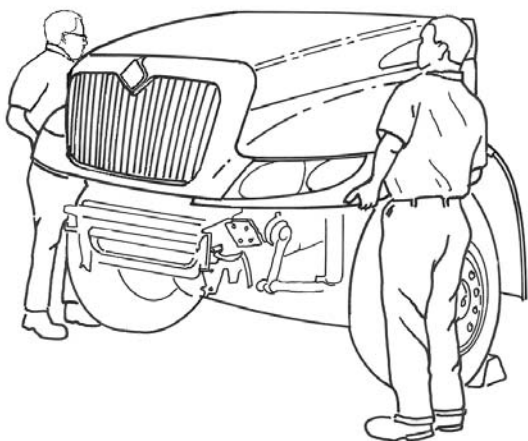

Figure 33 Hood Removal
25. With the same assistant, lift and remove hood assembly (Figure 33) from the chassis.